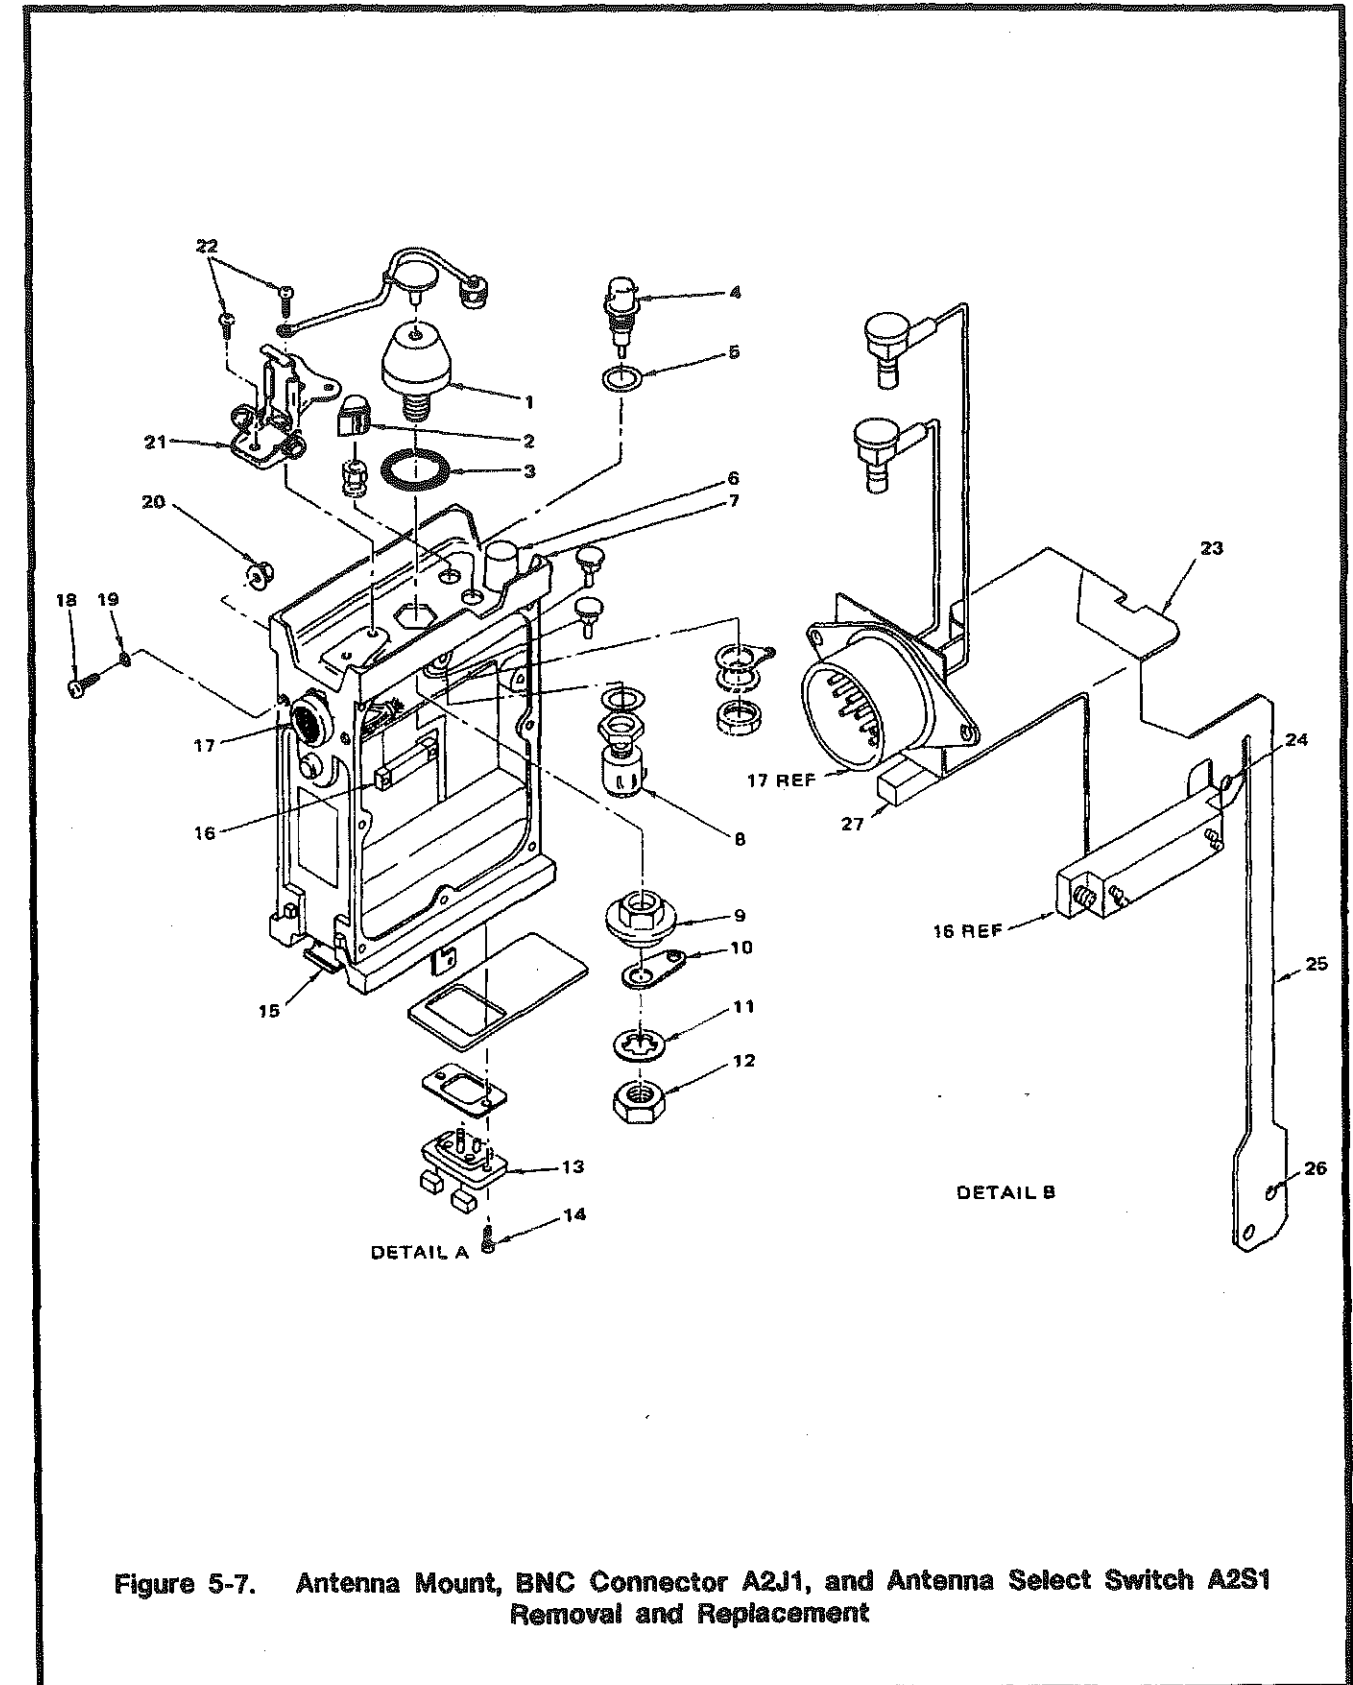

Figure 5-7. Antenna Mount, BNC Connector A2J1, and Antenna Select Switch A2S1 Removal and Replacement
**ANTENNA MOUNT REMOVAL AND REPLACEMENT, fig 5-7**
1. Inspect preform packing (3). Replace if worn or cracked. Lubricate preform packing.
2. Align upper antenna mount (1) and preform packing (3) with hexagon cutout on top of amplifier/coupler housing.
3. Push upper antenna mount (1) through hex cutout.
4. Align lower antenna mount (9) with upper antenna mount (1).
5. Push lower antenna mount (9) into hex cutout.
6. Attach terminal lug (10).
7. Attach lockwasher (11).
8. Attach nut (12) and tighten.
**BNC CONNECTOR A2J1 REMOVAL AND REPLACEMENT, fig 5-7**
1. Inspect preform packing O-ring (5). Replace if worn or cracked. Lubricate preform packing.
2. Align BNC connector (4) and preform packing (5) with hole adjacent to antenna mount.
3. Push BNC connector (4) and preform packing (5) into position with connector soldering terminal extending downward.
5. Solder teflon wire from antenna select switch (8) to BNC connector terminal (4).
**ANTENNA SELECT SWITCH A2S1 REMOVAL AND REPLACEMENT, fig 5-7**